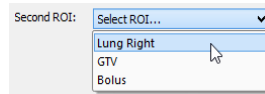

Figure 254 – Selecting the second ROI for algebra
4. Select the second ROI in the drop-down list that is displayed by clicking the **Second ROI** button (see Figure 254).